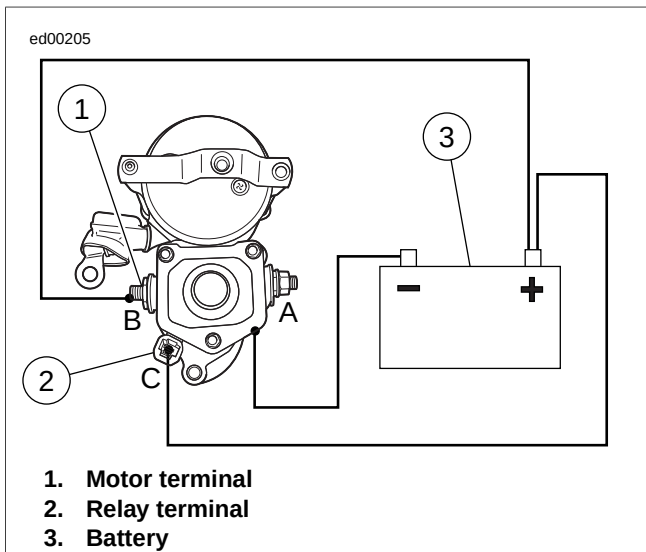

Figure 1-9. Hold-In Test
- See Figure 1-9. With test leads still connected in the manner specified in the previous 1.6 TESTING STARTER ON BENCH, Solenoid Pull-In Test, disconnect solenoid motor terminal/battery negative test lead at negative battery post only; reconnect loose end of this test lead to positive battery post instead.